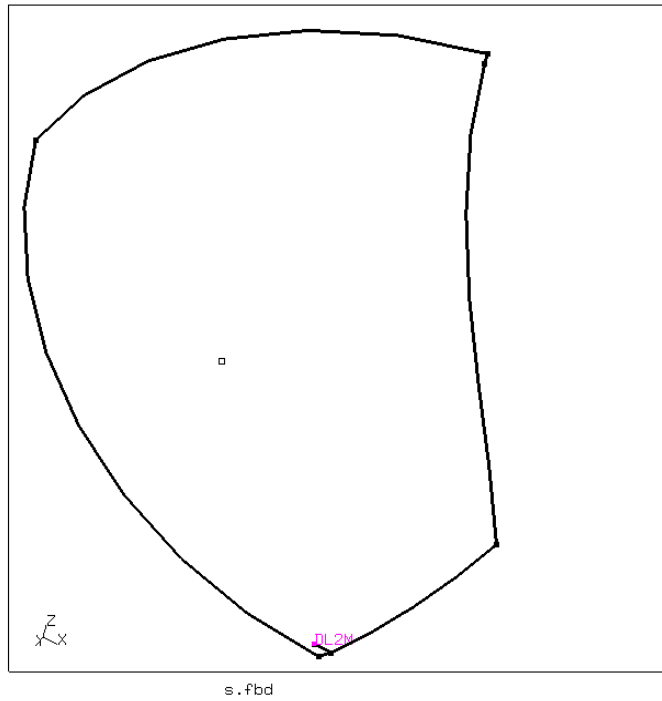

Figure 16: CAD-surface with a sliver or scratch
- Sometimes a surface is not meshable because a line runs right into it (a sliver, see figure 16). The following commands can be used to remove it: